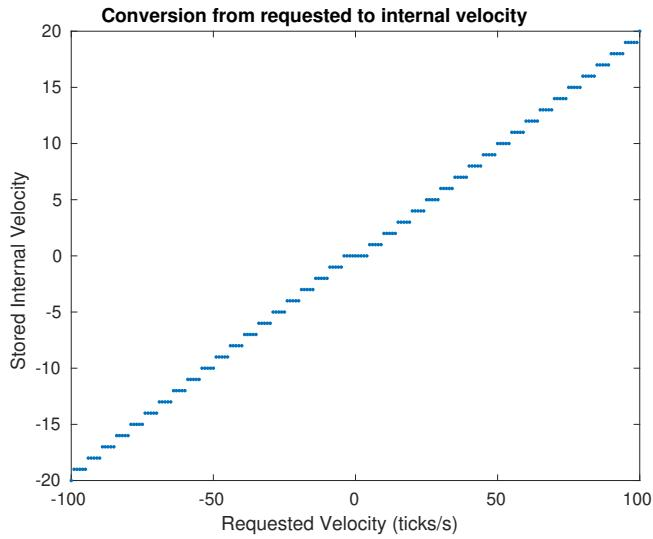

Figure 1: The conversion from an integer velocity requested from the PenguinPi to the internal velocity stored by the PenguinPi.
Figure 1 shows the velocity conversion for all requested velocities between -100 and 100. Note the effect of the truncation to zero.
4. Divide the result by 5, and round towards zero, as shown in Figure 1.